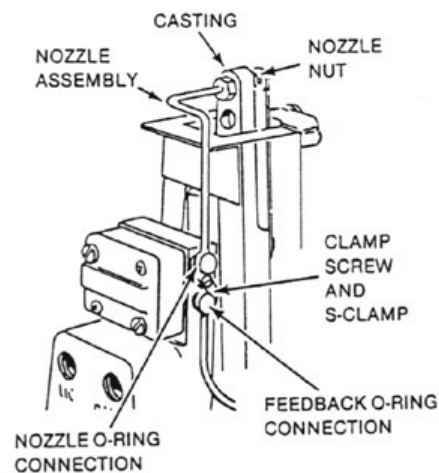

Figure 3.
1. Unscrew nozzle nut. Do not let soldered nut on opposite side of casting turn. See Figure 3.